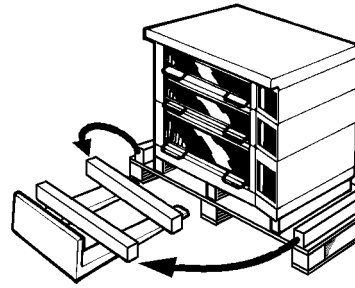

Fig. 13 Lifting of the parts of the oven.
- Use the planks from the loading pallet and place these on the forks of the truck as spacers to protect the oven door (Fig. 13).